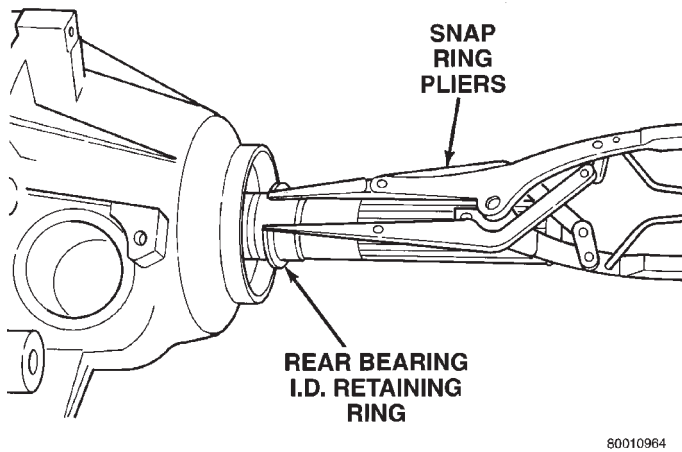

Fig. 13 Rear Bearing I.D. Retaining Ring Removal
(5) Remove rear output bearing I.D. retaining ring (Fig. 13).
(6) Remove speedometer adapter.
(7) Remove rear retainer bolts.